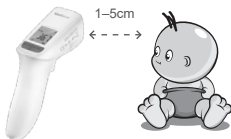

Figure 2: Measuring position and distance
- Align the thermometer with the middle of the forehead to measure body temperature (between the eyebrows) and keep the thermometer in vertical position, at a distance of 1–5 cm from the forehead, then press the On/Scan button, and body temperature will be displayed in less then 2 seconds (figure 2).